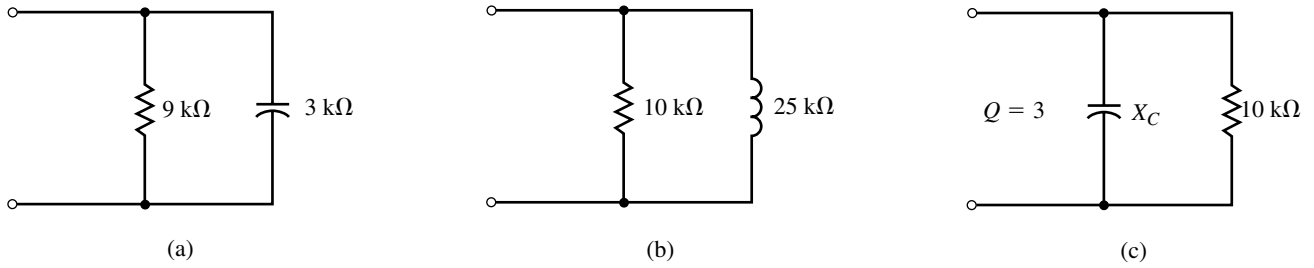

FIGURE 21-62
20. Repeat Problem 19 for the networks of Figure 21-62.